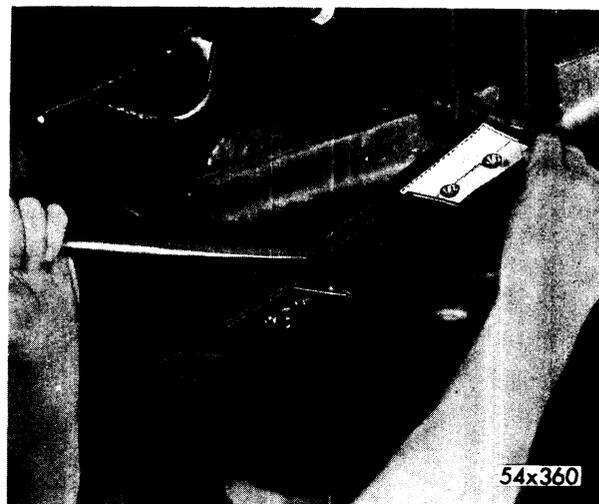

Fig. 8—Positioning New Interliners
- (1) Slip the new interliner in place by opening the gap between the spring leaves again with the tapered bar and moving the interliner until the prongs of the metal fasteners are aligned with the holes in the shorter leaf, as shown in Figure 8.